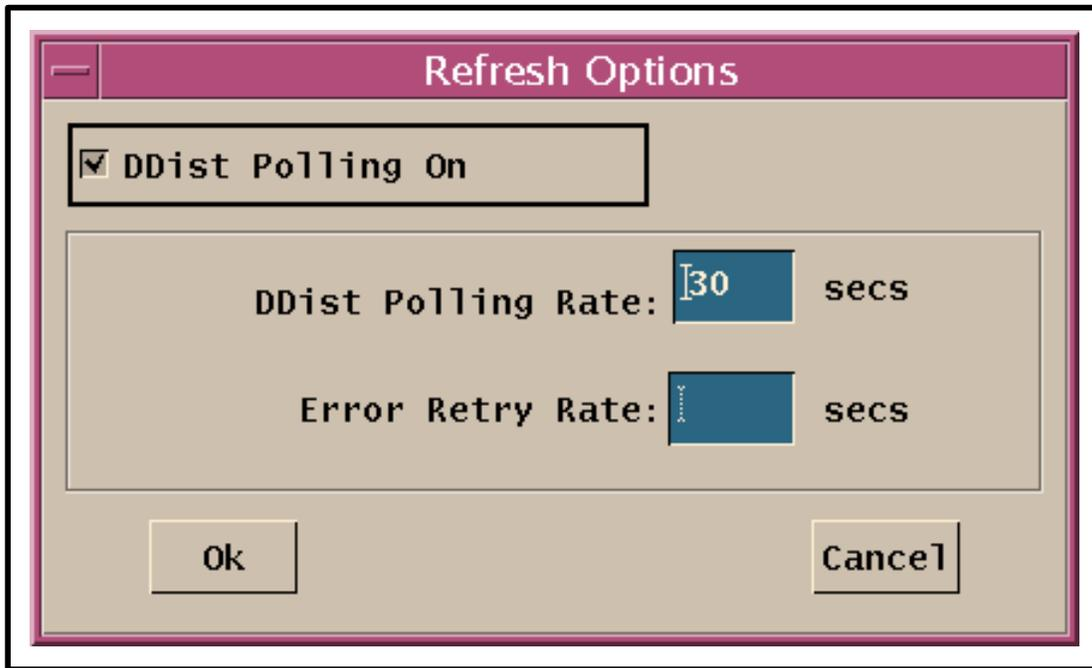

Figure 7. Refresh Options Dialogue Box
- The **Refresh Options** dialogue box (Figure 7) is displayed.